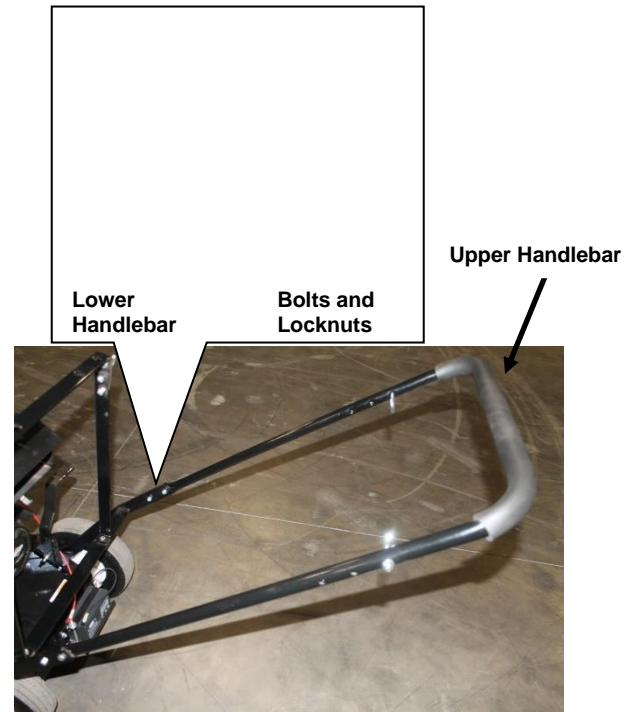

Figure 7
3. Take the Upper Handle Bar Assembly and slide the flat ends of the Upper Handle inside the Lower Handle. Secure with four 5/16-18 x 1" Bolts and four 5/16-18 Nylon Locknuts (Figure 7).